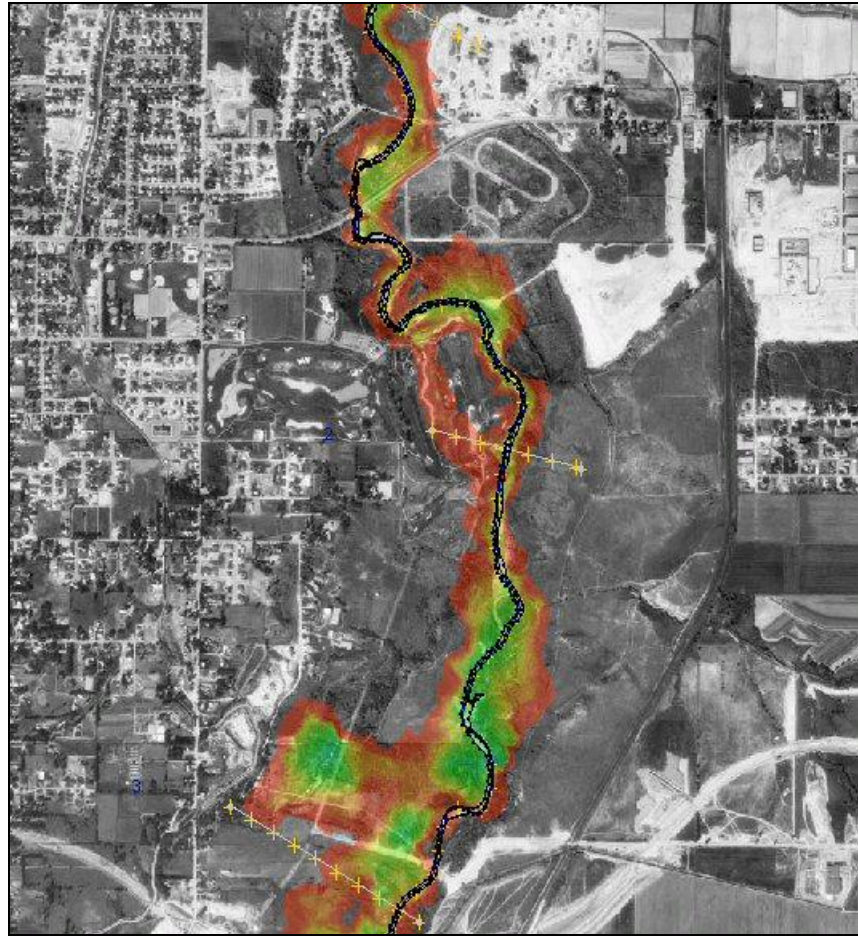

Figure 9-1: Flood depth map.
13. Select W.S. Elev-PF 1_wl from the Project Explorer and experiment with viewing the results, similar to the flood depth. You may also want to experiment with adjusting the transparency and turn the background image on as shown in Figure 9-1. When specifying the range, notice that the default values are actual TIN elevations.